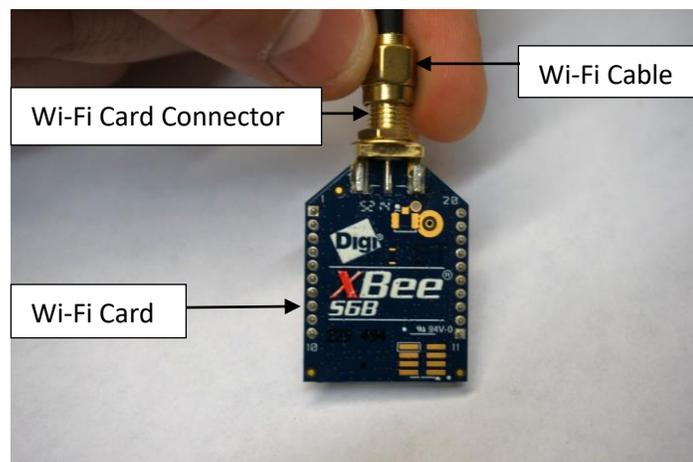

Fig 7
5. Thread the female end of the Wi-Fi cable onto the connector of the Wi-Fi card (Fig. 7)